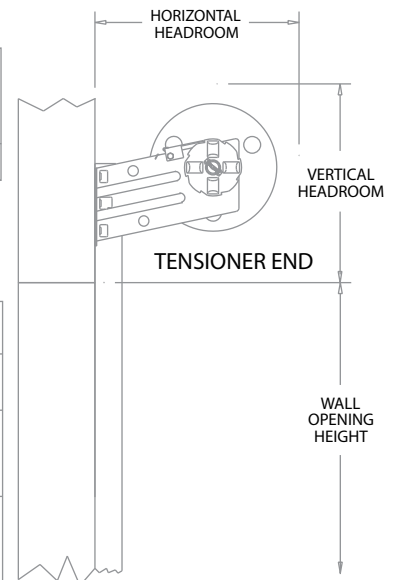

FIGURE 1
- D. Check for adequate side clearance at jambs and clearance above and at sides of header. Check horizontal and vertical headroom requirements. See clearance charts **figure 1** for minimum requirements.